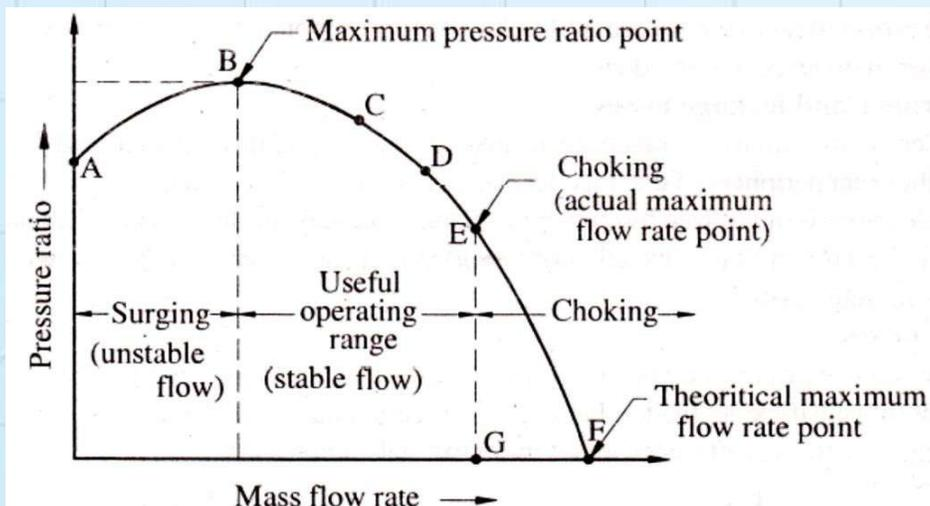

Fig.7.9 – Surging and choking in centrifugal compressor
- ▶ The theoretical pressure ratio versus mass flow rate for centrifugal compressor shown in the Fig. 7.9 which delivering air through a flow control valve situated after the diffuser.
- ▶ The point ‘E’ on the characteristic curve is called the **choking point** as shown in Fig. 7.9.